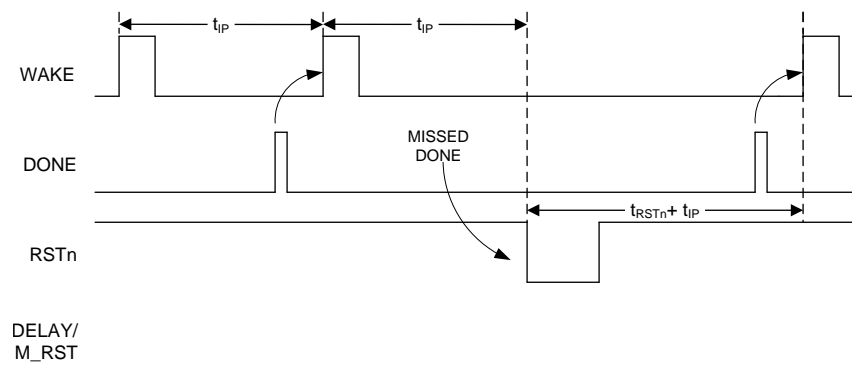
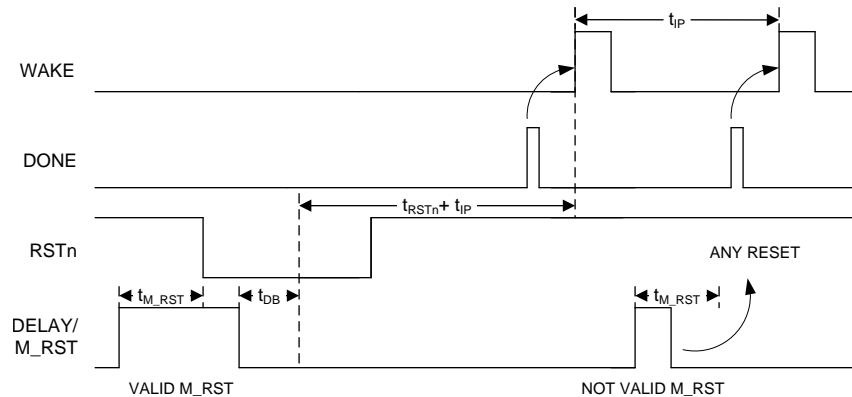

Figure 8. Watchdog
Figure 10. Manual Reset
- 2. At the beginning of a new time interval if DONE is not received at least 20 ms before the next WAKE rising edge (see Figure 8).
During normal operating mode, the TPL5010-Q1 asserts periodic WAKE pulses in response to valid DONE pulses from the  $\mu\text{C}$ . If either a manual reset is applied (logic HIGH on DELAY/M\_RST pin) or the  $\mu\text{C}$  does not issue a DONE pulse within the required time, the TPL5010-Q1 asserts the RSTn signal to the  $\mu\text{C}$  and restarts its internal counters. See Figure 8 and Figure 10.